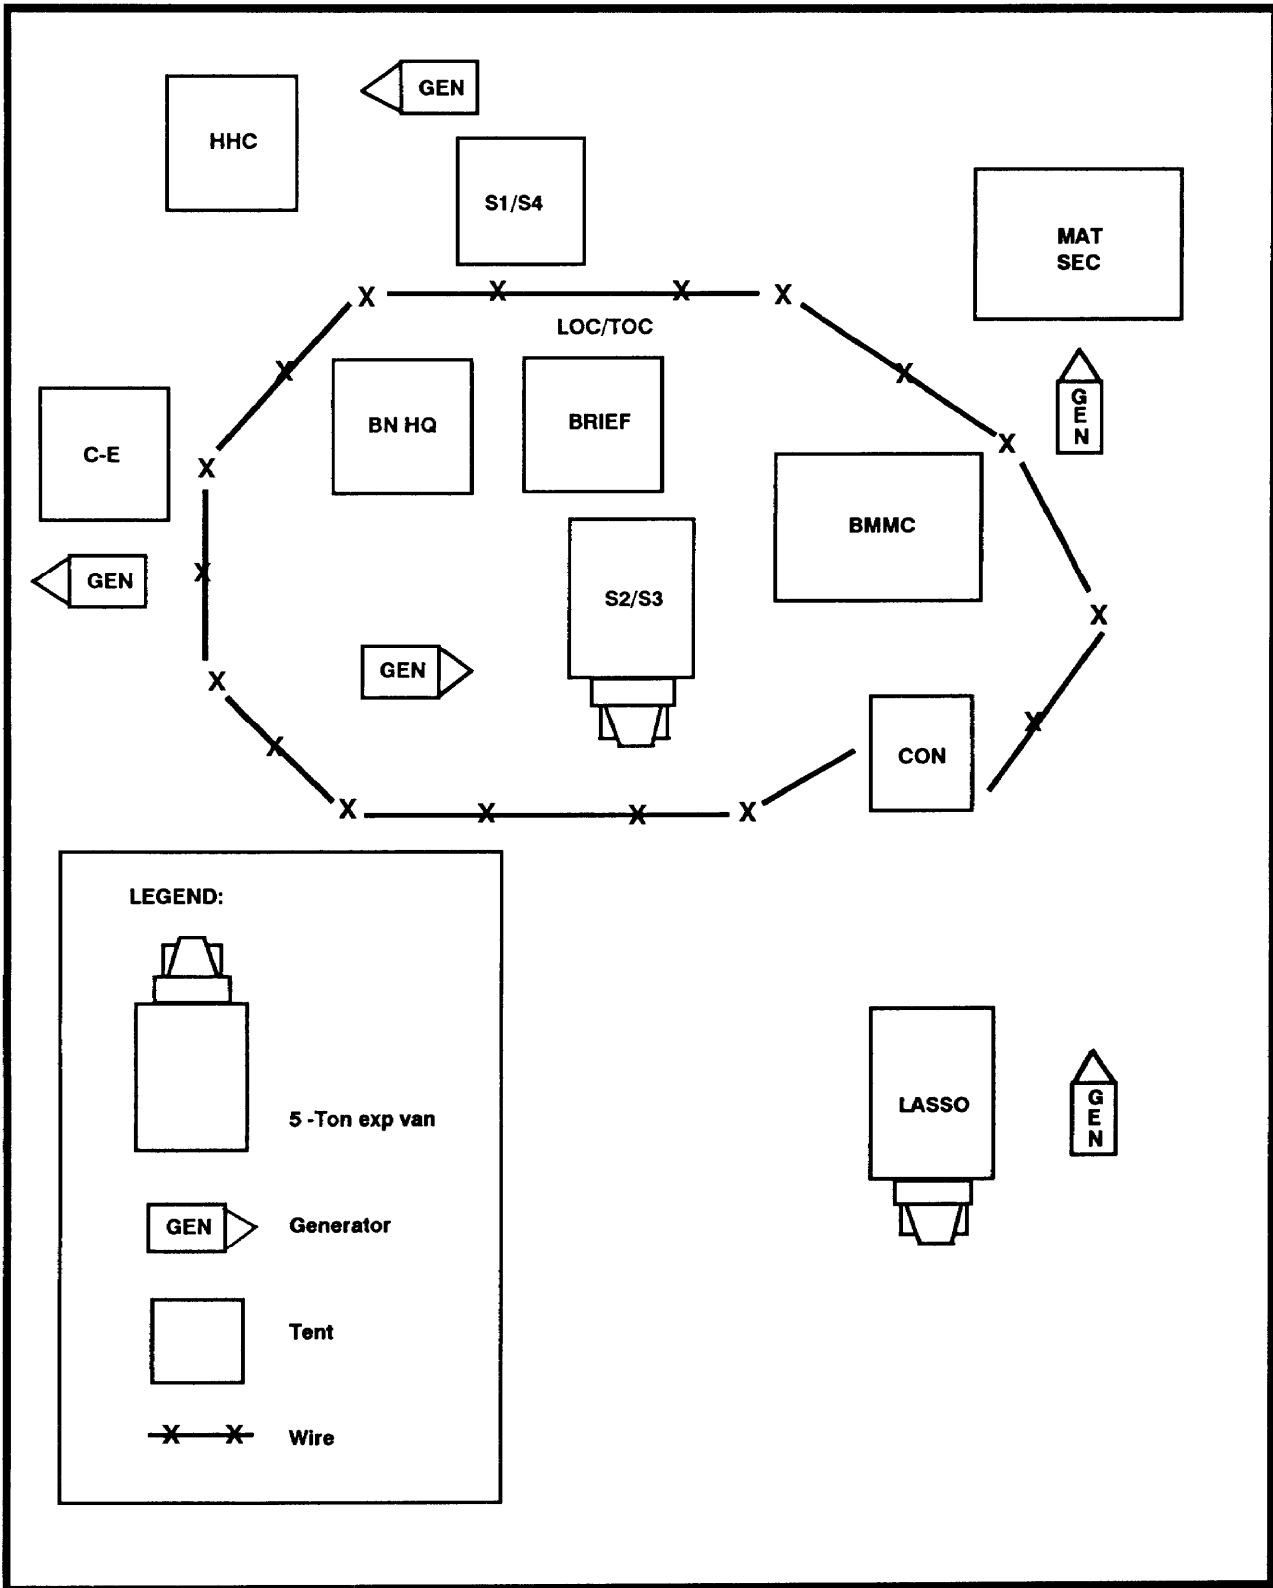

Figure A-1. Sample support battalion command post.
- c. Figures A-1 and A-2 depict the layout of the LOC/TOC for the support battalion/squadron. In the HSB and SIB/TDB the S2/S3 section operates out of a 5-ton expandable van. The command section works in and through the van. However, this section also works out of the command briefing tent set up in the support battalion LOC/TOC area. The BMMC works out of a tent. In the ACR, the S2/S3 section and RMMC each operate out of a 5-ton expandable van. These two vans are backed up to a common platform/trailer.